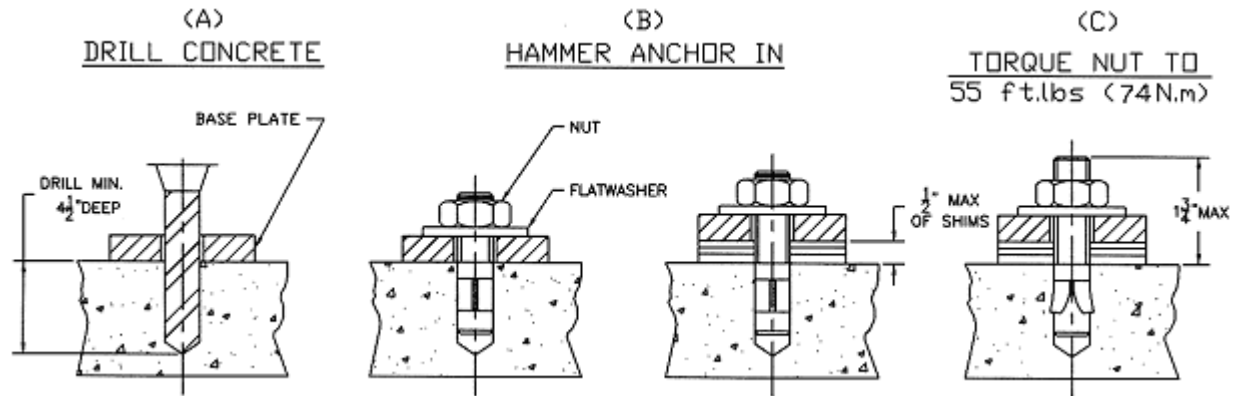

Figure 6. Anchoring
2. Using a rotary hammer drill and a 1/2” concrete bit, drill through the floor at each of the six (6) anchor bolt locations on each of the base frames. Make sure that the 1/2” concrete drill bit is in good condition. Refer to **Figure 6**.